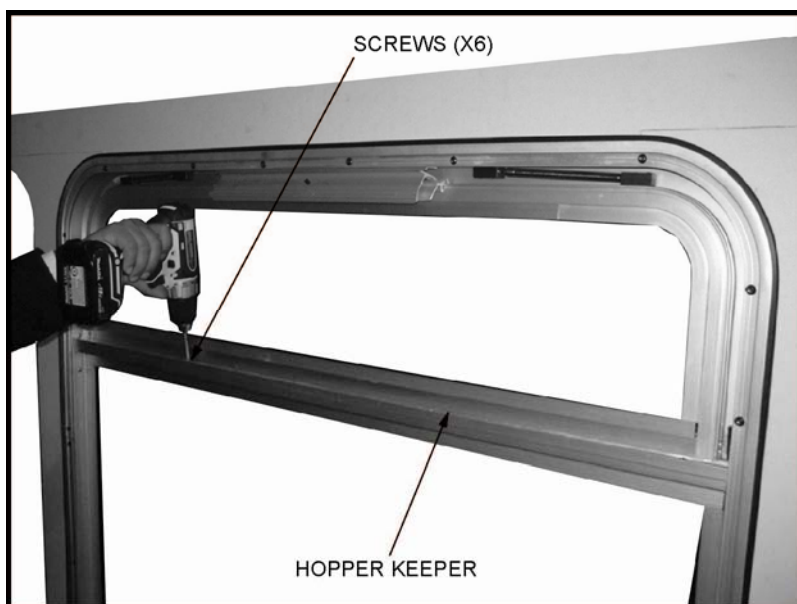

FIGURE 2: HOPPER KEEPER REMOVAL
2. Refer to **Figure 2**. Remove and retain six screws that hold Hopper Keeper in place using a cordless driver with a Phillips driver bit (size P2).